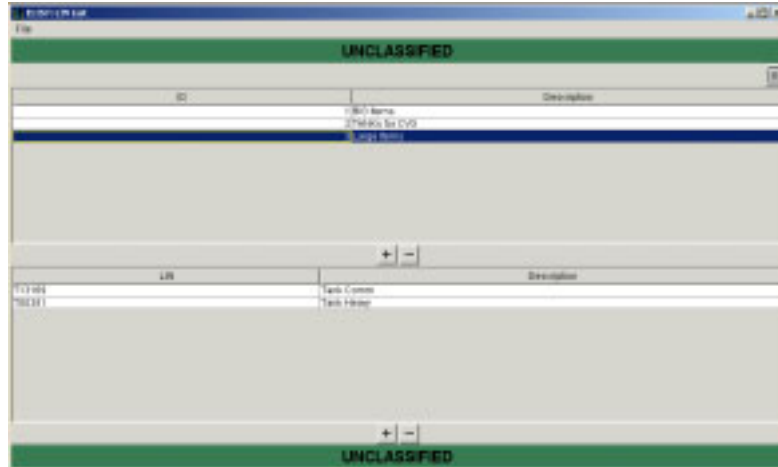

Figure 5.191 ELIST: LIN List Window
2. On the ELIST: LIN List window, in the upper panel, click the ID (i.e., 1, 2, and so forth) of the LIN list you want to delete. The selected line is highlighted, and the items in the LIN are displayed in the lower panel (Figure 5.191).